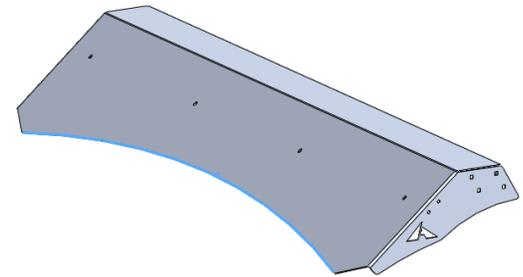

Figure 6: Rubber Trim Installation on Air Dam
- Install rubber trim along front edge of air dam (Figure 6).